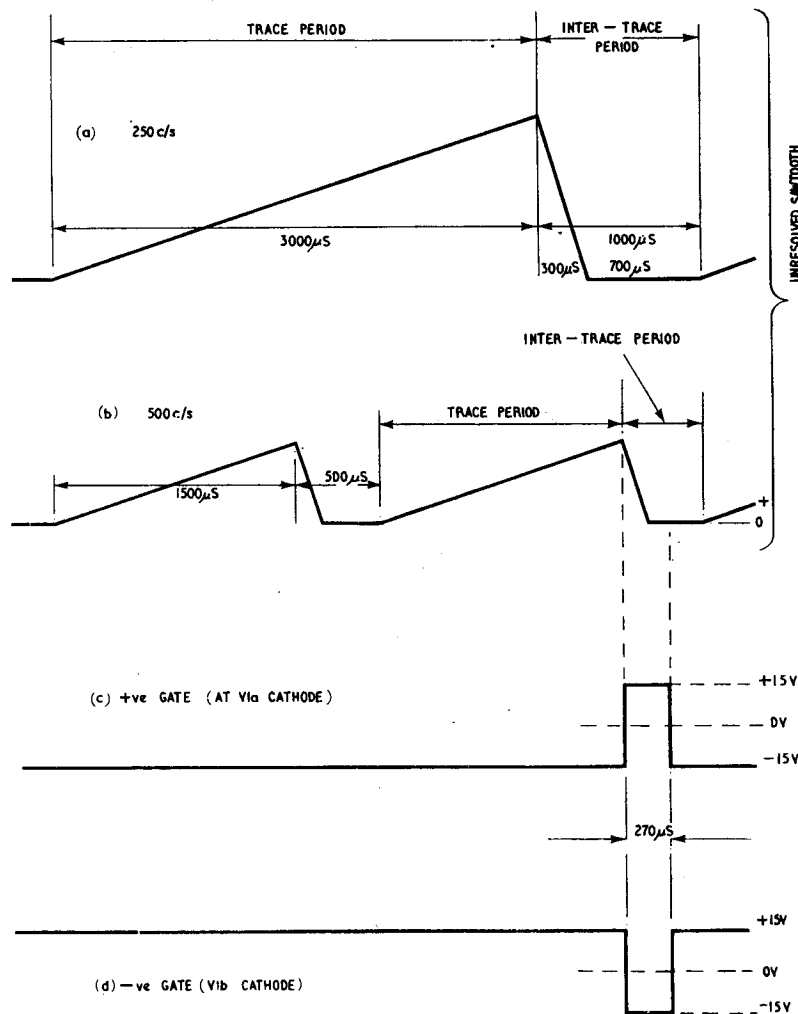

Fig. 9. Timing of inter-trace gates
8. On arrival from the radar office rack assembly Type 304, the positive and negative inter-trace gating waves consist of square pulses of about 30V amplitude recurring at 250 c/s (*fig. 9*). The leading edges of the gate pulses coincide with the end of a 500 c/s radar timebase. Both pulses last for 270 μ S, which is about half a 500 c/s inter-trace period. This method of timing means that when information from a 250 c/s radar head is being displayed, inter-trace markers come up after every scan; but when a 500 c/s head is in use, they show after every second scan.
23. The gating circuit contains four double-diodes V3 to V6 (CV140). These eight diodes are arranged to admit the X timebase component to the off-centring amplifier during the non-gated period (i.e. trace period plus last part of inter-trace period), and the X inter-trace deflection component during the other part of the inter-trace period (i.e. the gated period). The action is controlled by positive and negative gating waves (fig. 9) received from the gate cathode-followers.